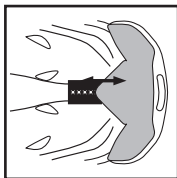

Figure 5
- The In Form fit system is equipped with a height adjustment mechanism. To adjust, unsnap the In Form center hanger, then move up or down until it is most comfortable for you (Figure 5). Firmly reattach the snaps in one of the three height adjustments. For the optimum performance, make sure both of the center hanger snaps are securely attached.